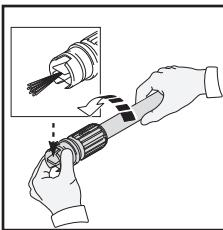

Fig. 18
- Take off the adjustable lance. Rotate the nozzle on the adjustable lance to the narrow stream setting which opens up the fan blades (Fig. 18).